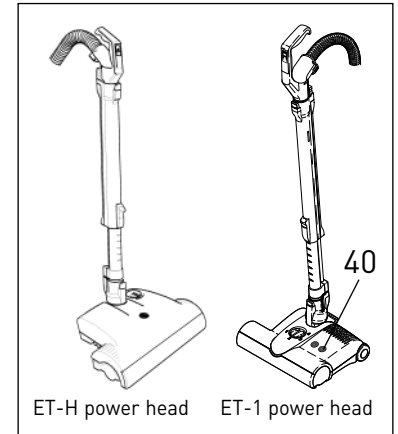
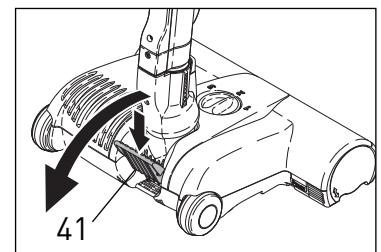
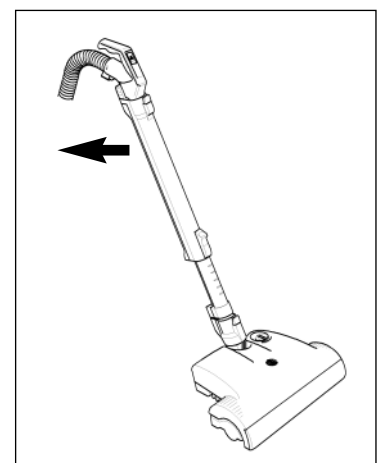

Figure 8
Figure 10a
Figure 10b
Before turning on your canister, make sure that the vacuum handle is in its upright locked position (figure 8).
4. Slide the Power Control Slider (2) to the ON position (the slider will "click" when it is pushed out of the OFF position). It will then slide freely between 0 suction and MAX suction. Set the slider to the suction desired. Release the foot pedal (#41, figure 10a) on the ET-1 or ET-2 power head or, for the ET-H power head, lower the handle (figure 10b).
Operating The Machine - Figures 10a & 10b
When the power head is on with the handle in the upright locked position (see figure 8 above), the brush roller will not spin.
To release the ET-1 or ET-2 power head from the upright locked position, press down on the foot pedal (#41, figure 10a) and lower the handle into the normal operating position and push the button on the top of the power head (#40, figure 8) to engage the brush roller. The green light on the power head will illuminate.
To release the ET-H power head from the upright locked position, gently place your foot on the power head for leverage and lower the handle into the operating position (figure 10b). The brush roller will then start spinning. The amber indicator light may flicker for a few seconds when you lower the handle - this is normal.